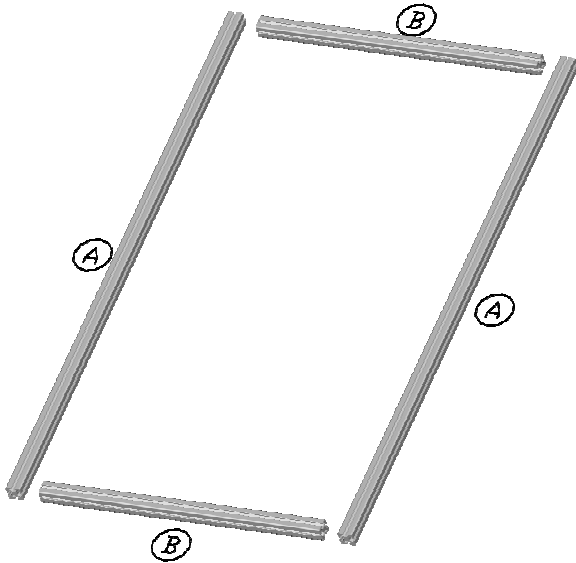

Figure 1-A
1. Begin by laying out the framing members (see Figure 1-A). Depending on the size and configuration of your equipment screen, the quantities and dimensions of the framing will vary. This information is included in the cut sheet that accompanies these instructions.